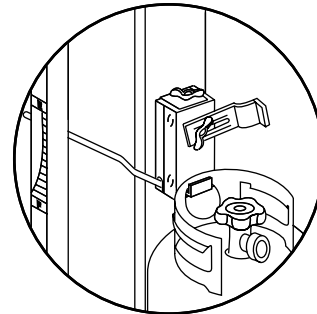

Figure 8
- b) Loosen the tank lock wing nut. Swing the tank lock down. Tighten the wing nut. Figure 8.